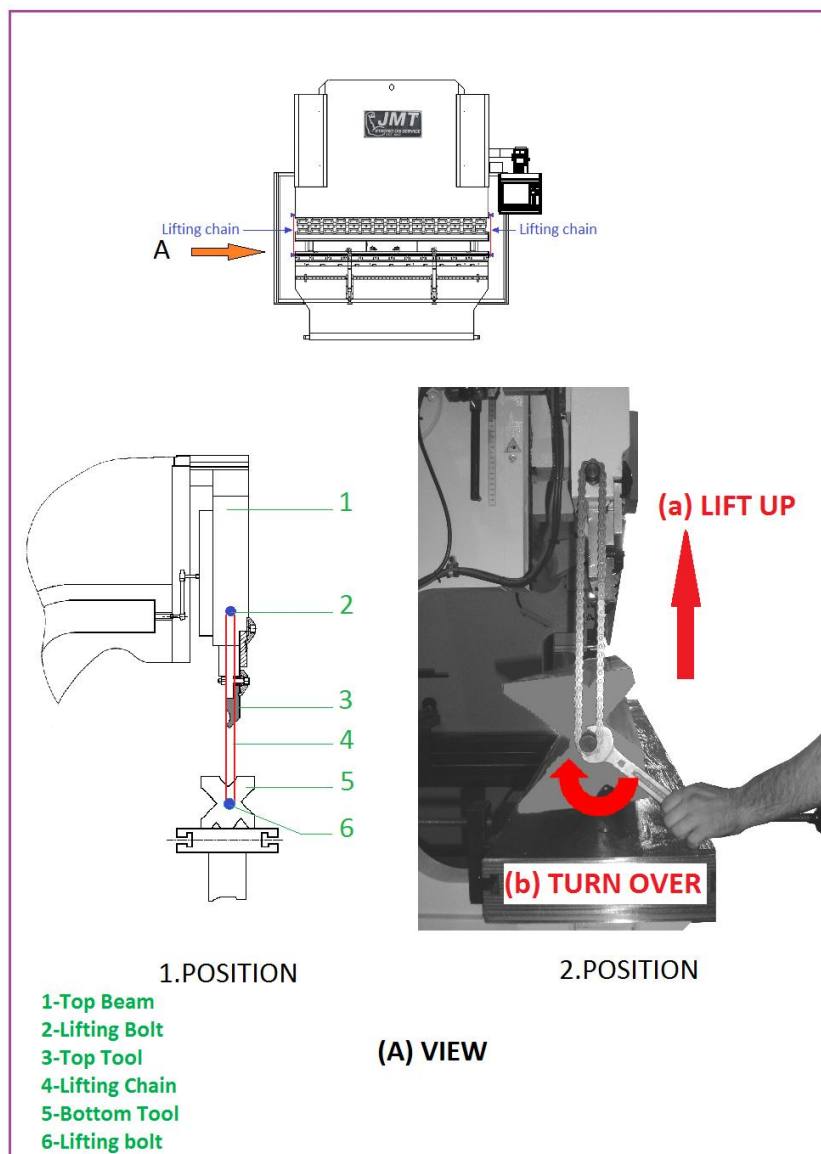

Figure-38: Centering the bottom tool.
1. Lift up the bottom tool from the both sides by means of top beam power using the chains (See Figure-38) provided on both sides of the machine.
2. Select the desired vee by turning over the tool using wrench (See Figure-38 view A 2.position).